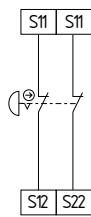

Fig. 6
**Dual-channel emergency stop circuit with command devices to EN ISO 13850 and EN 60947-5-5 (Fig. 6)**